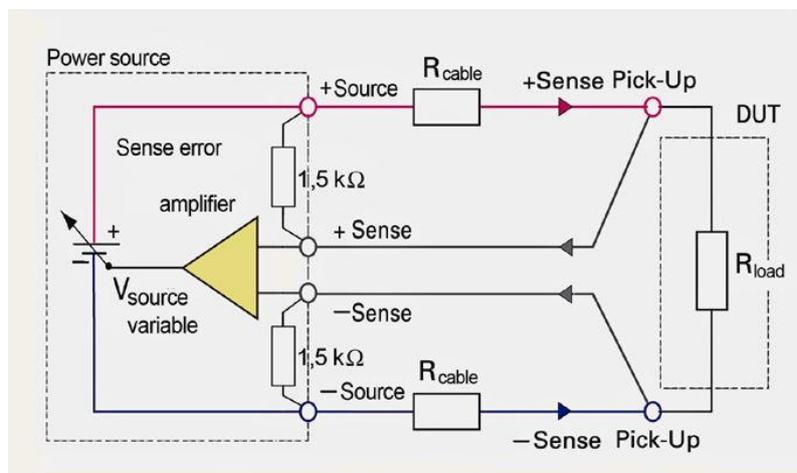

Figure 4-1: Voltage drop compensation circuit
2. Connect the two cables to the DUT connector of the power cable, as shown in Figure 4-1